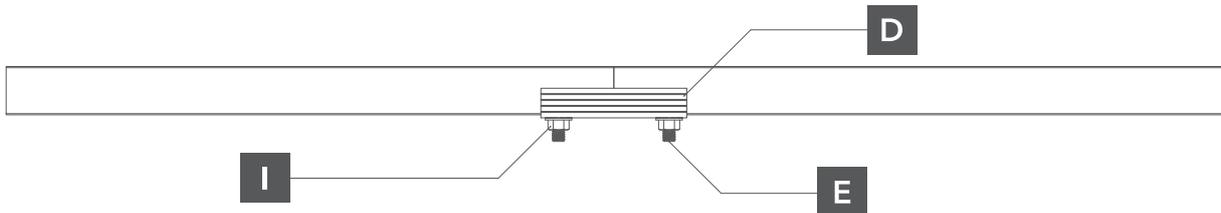

Fig. 5. connection of the mounting rails
- 4** If a system with a larger number of rows is ordered, the mounting rails may have different lengths. It is necessary to connect them using the rail connector (Fig. 5).